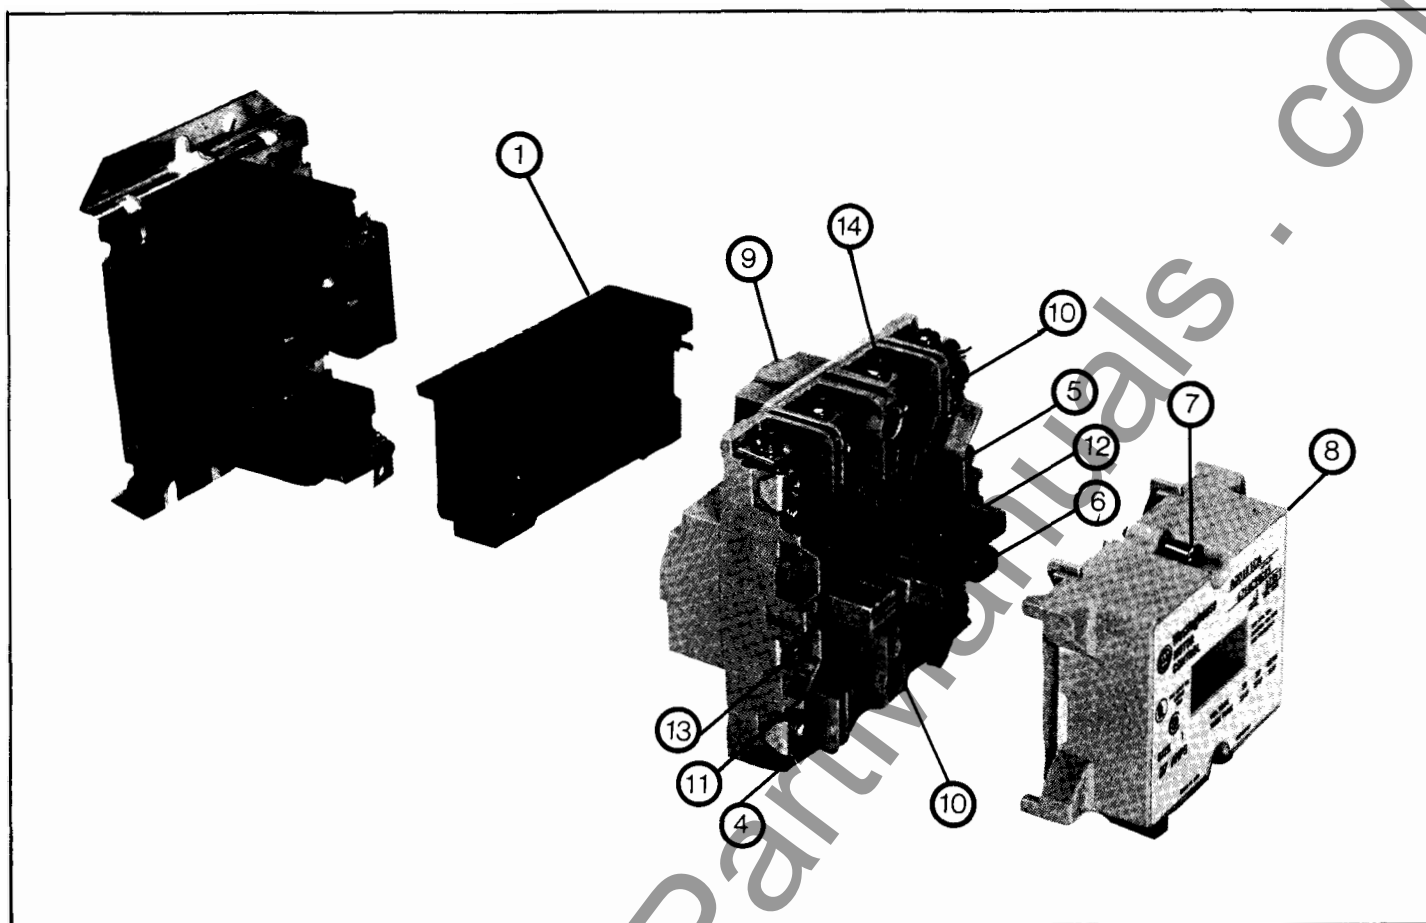

Fig. 11 Size 1 A210 or A250 Contactor (Exploded View)
Refer to Figure 11. Loosen the two arc box assembly screws (7) located immediately above and below the nameplate and remove the arc box (8). Contacts (5) are visible. Retighten the screws per Table V.
Refer to Figure 11. Loosen the assembly screws